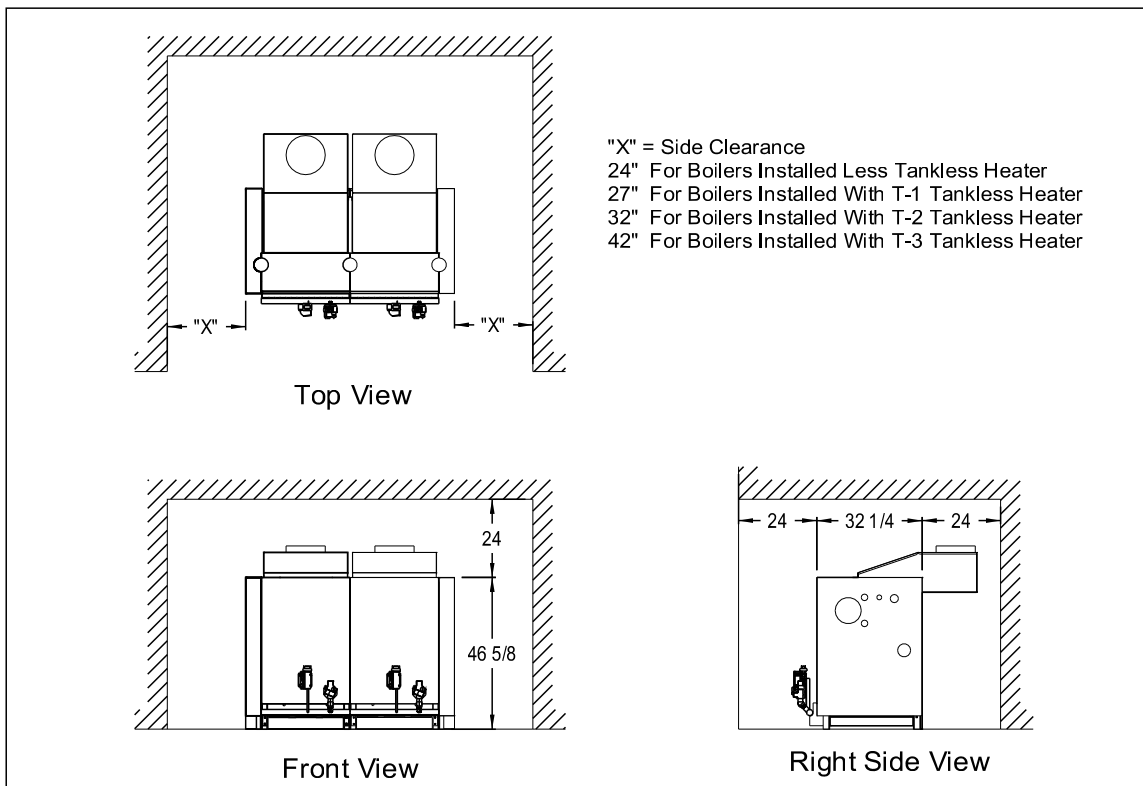

Figure 3: Clearances To Combustible Construction
- 2) Observe the minimum clearances as shown in Table 3. These clearances apply to all combustible construction, as well as noncombustible walls, ceilings and doors. Also see Figure 3.
- 3) Install the rear panel support brackets using #10 x 1/2 sheet metal screws (Figure 3).